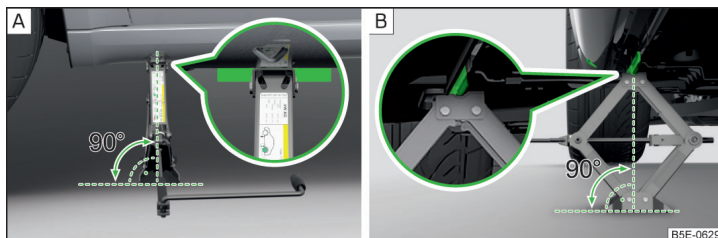

Fig. 333 Attach lifting jack
- Support the base plate of the jack with its full area resting on level ground and ensure that the jack is located in a vertical position at the jacking point » Fig. 333 - [A].
- Use the crank to raise the jack until its claw encloses the bar » Fig. 333 - [B].